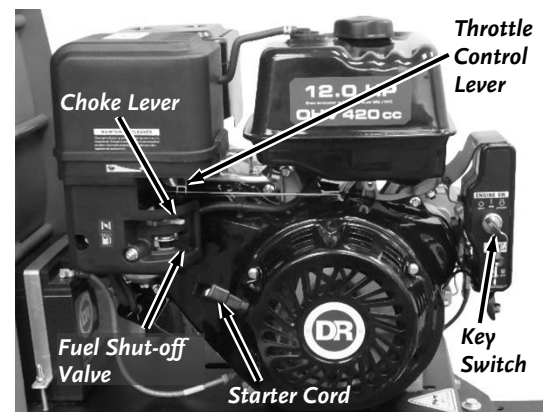

Figure 10
2. Turn the Fuel Shut-Off Valve to the right to the ON position (**Figure 10**).